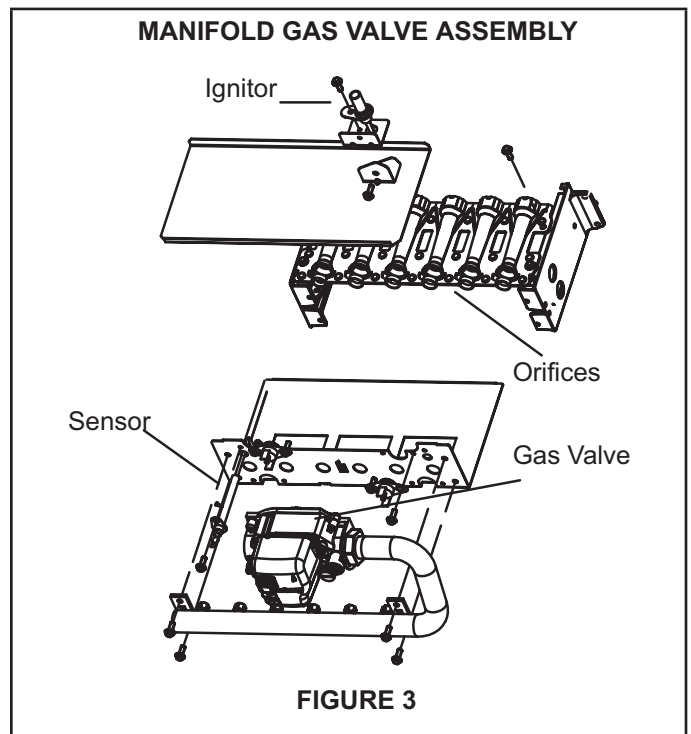

FIGURE 4
- 5 - Replace the burner orifices with the provided gas orifices. Torque to approximately 35 in-lbs. Do not use sealant on orifices. Figure 4. shows manifold/gas valve assembly.